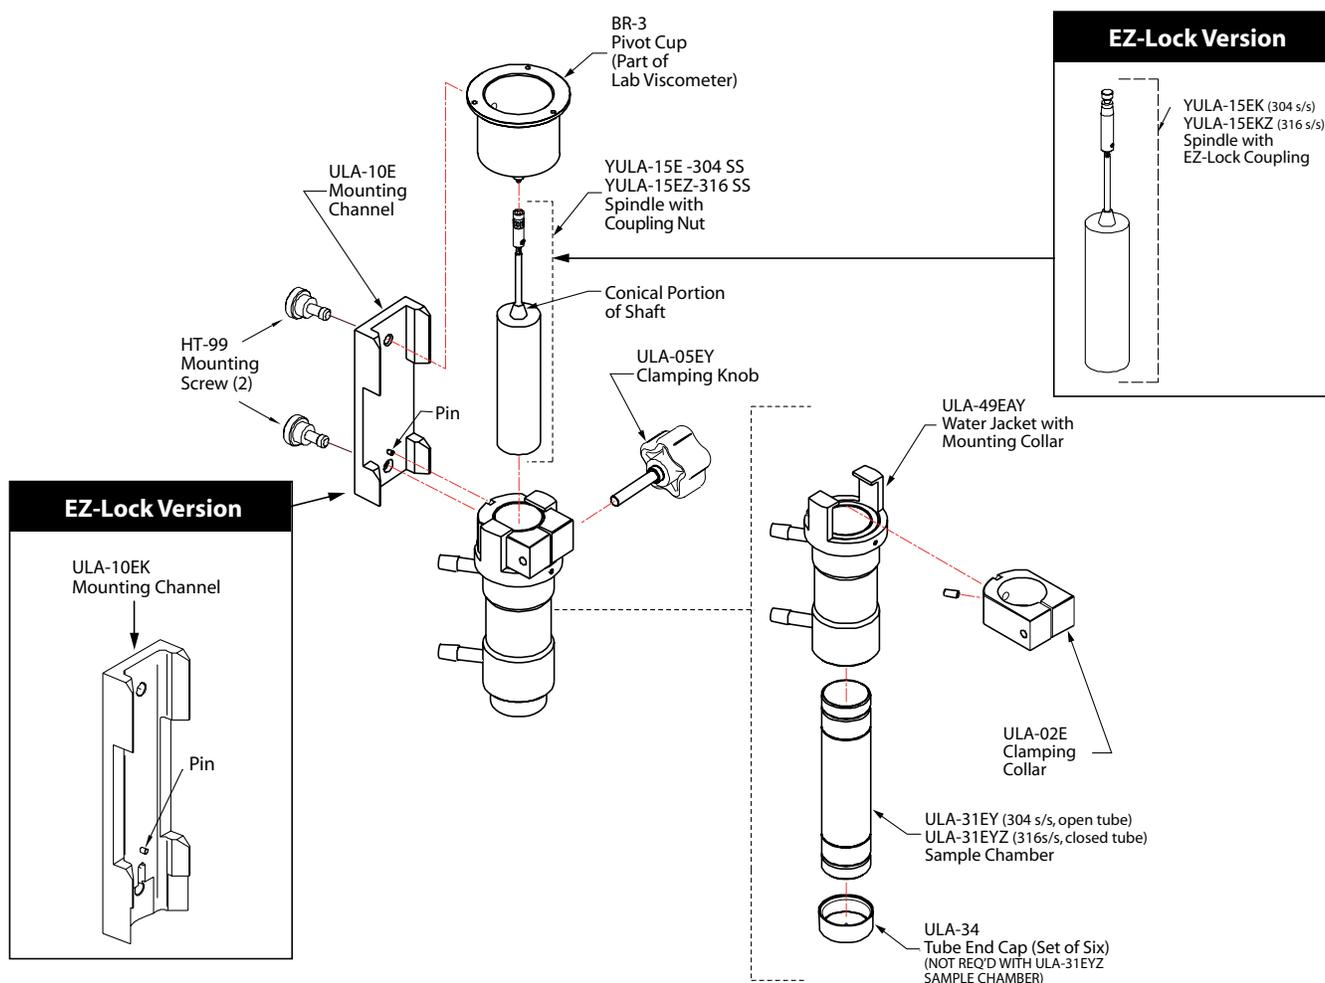
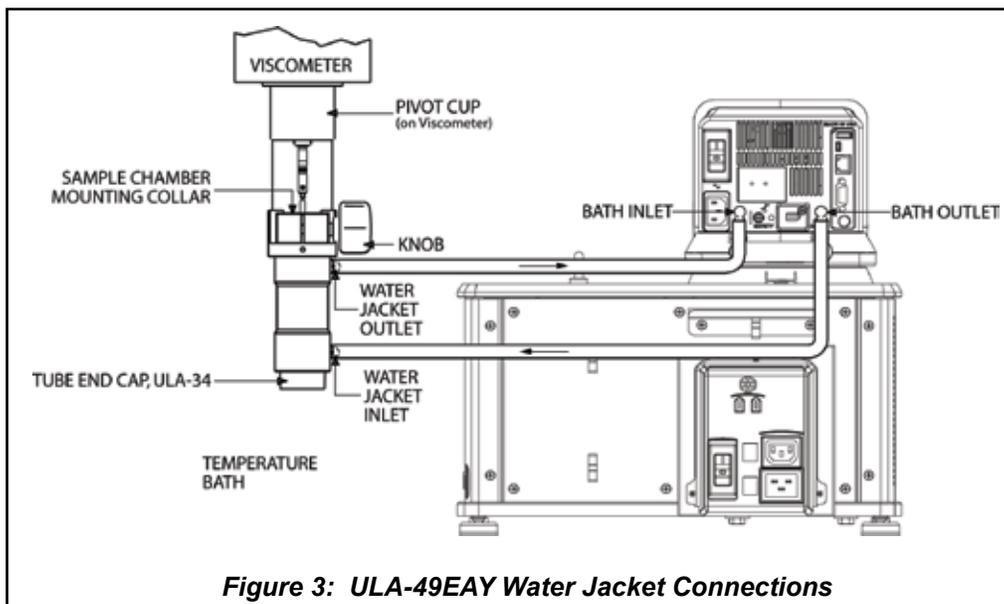

Figure 1: Enhanced UL Adapter Assembly
Figure 3: ULA-49EAY Water Jacket Connections
The Enhanced UL Adapter, shown in Figure 1, is a kit consisting of a spindle with coupling nut attached, sample chamber, mounting channel, and water jacket with mounting collar. It is available in two versions: (1) with type 304 stainless steel suitable for most general purpose applications; (2) with type 316 stainless steel for use with corrosive/acidic applications. All versions are shipped with the water jacket (ULA-49EAY) mounted on the sample chamber.
1. Attach the mounting channel to the viscometer by threading the upper mounting screw into the viscometer pivot cup. Do not overtighten. The end of the mounting channel with the pin must be at the bottom, as shown in Figure 1.
The clamping collar connects to the mounting channel as shown in Figure 1. For the Standard Coupling Nut, the spindle with coupling nut can be attached to the viscometer beforehand for easy handling. For the EZ-Lock Coupling, attach the spindle to the viscometer by raising the spring-loaded sleeve at the base of the viscometer pivot cup and inserting the spindle so that the bottom of the coupling is flush with the bottom of the sleeve. Slide the sleeve back down to hold the spindle in place. Slowly lower the spindle.chamber assembly into the sample fluid.
The UL Adapter may be used with the ULA-49EAY water jacket and a circulating water bath by connecting the water jacket to the bath inlet and outlet ports (Figure 3). The tube end cap (ULA-34) is snapped over the bottom end of the sample chamber before the sample is added. Be sure that it is securely seated in the groove. Fill with **16 mL** of sample fluid. Insert the clamping collar into the mounting collar as shown in Figure 1. Insert the sample chamber upwards into the water jacket and clamping collar. When fully inserted, secure the sample chamber by tightening the clamping knob.